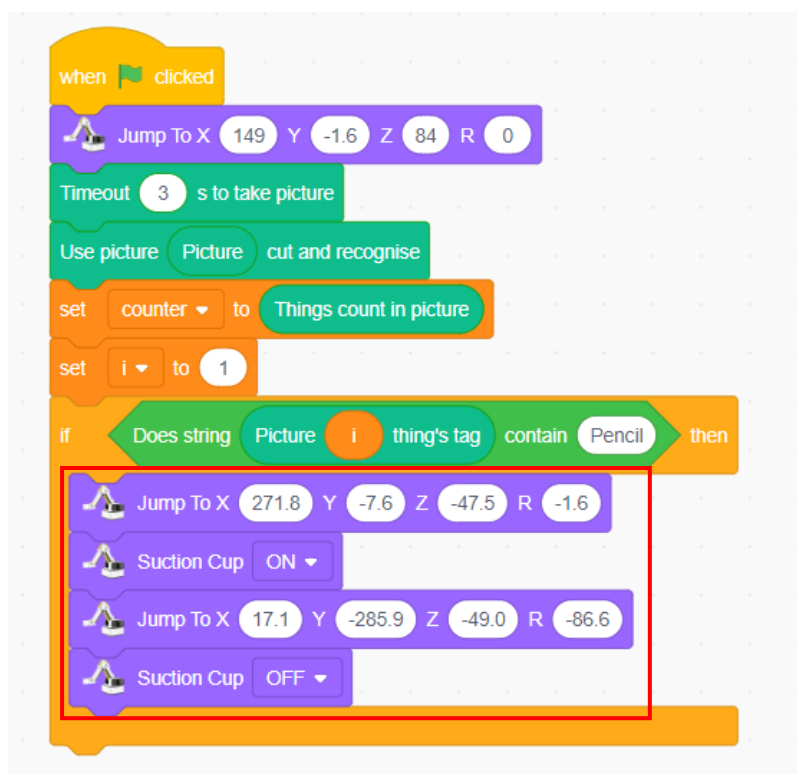

Figure 4.26 The pencil as a recognition result
Step 5: Recognize the label of each item with image segmentation. If a label shows a pencil, the robotic arms will grab the pencil to the proper placement area, as shown in Figure 4.26.